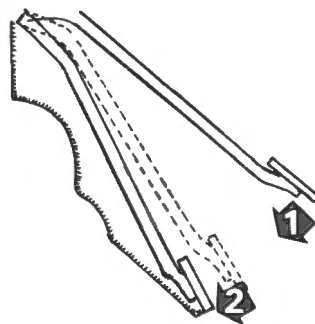

Fig. M-3
A feature of the gearbox is the 'part throttle' and 'full throttle' down-shifts. With the selector in 'D' between speeds of 17 to 51 km/h (13-32 mph) a part throttle 3-2 down-shift can be made by a partial depression of the accelerator pedal (1) (Fig. M-3) the actual amount being progressive and dependent on the road speed.
Full throttle down-shifts (termed 'kick-down') may be made by depressing the pedal fully (2) (Fig. M-3). The speed below which 'kick-down' can be made are: